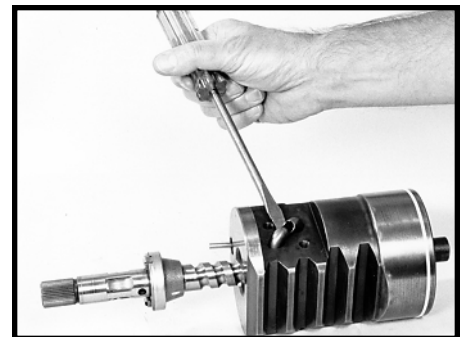
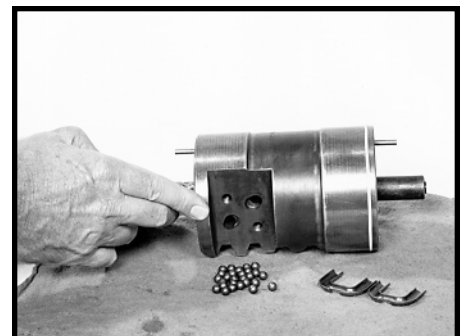

Figure 72
Figure 73
- 35. Remove the halves of the ball return guide (43) SEE FIGURE 72. Next, remove the 27 steel balls (42) from the rack piston (31) by rotating the worm shaft/input shaft (17) until the balls fall out. SEE FIGURE 73.